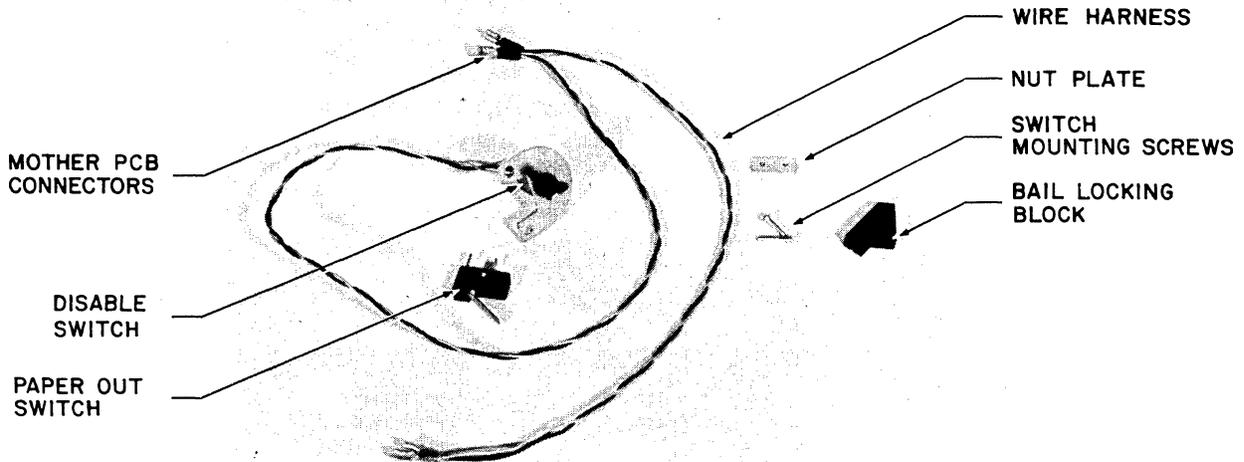

Figure 5-43 BOTTOM FEED PAPER CHUTE PAPER OUT SWITCH PARTS
**NOTE:** If the switch is NOT to be used, replace it with the bail locking block shown in Figure 5-43, and disregard subsection 5.4.7.2 Step 7, and subsection 5.4.7.3 Steps 6 and 7 below.
7. Assemble and identify the parts needed for installation of this portion of the Bottom Feed Paper Chute. Note that either the paper out switch or the bail locking block should have been installed earlier. Figure 5-43 illustrates these parts.